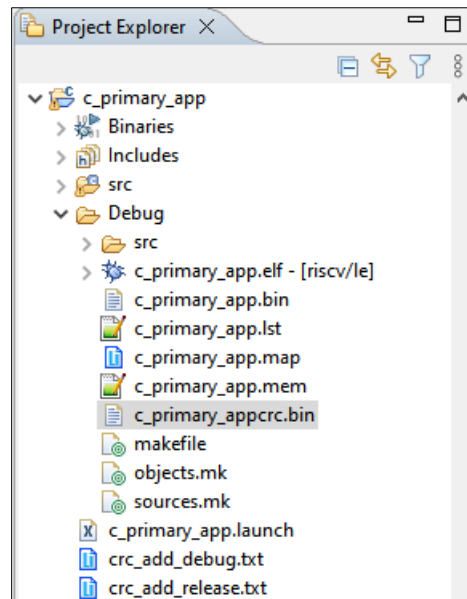

Figure 7.52. Bare-metal App Binaries Created with CRC
20. This creates the debug folder and the following file with **c_primary_appcrc.bin** binary with CRC as shown in Figure 7.52.